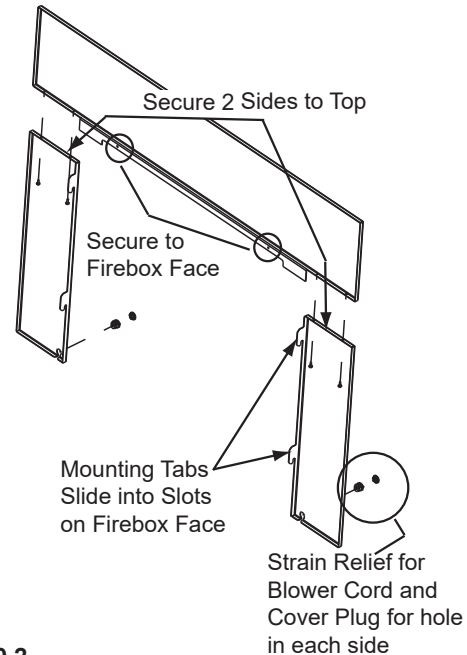

Figure 20.2
2. Using a 4 to 6 inches long Phillips head screw driver attach the side surrounds to the top surround using (2) #8 sheet metal screws on each side provided with the kit (**Figure 20.2**).
4. Using a standard flat screw driver tighten the corner brackets (**Figure 20.2**).
5. Slide the assembled trim set over the surround set. and then over the appliance matching the mounting tabs on the side pieces with the slots on the appliance (**Figure 20.2**).